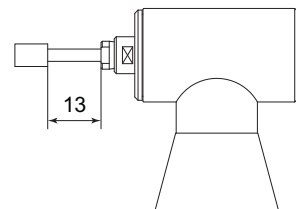

Fig. 12
- ① The proper surface speed for general grindstones is 10 - 30m / s.
- ② Do not exceed 13mm of overhang for mounted grindstones as shown in Fig. 12. If the overhang must exceed 13mm, reduce the motor speed in accordance with Table 2.
- ③ Dress the grindstone prior to use.
- ④ Do not use cutting tools with bent or broken shanks, cracks or excessive run-out.
- ⑤ For grinding, the maximum depth of cut should not exceed 0.01mm radially or axially. Reciprocate the tool several times after each pass to eliminate tool pressure.
- ⑥ Always operate cutting tools within the allowable recommended speed of the cutting tools. Use of a cutting tool outside of the allowable speed of the cutting tools could cause damage to the spindle and injury to the operator.
- ⑦ Keep the cutting tool shank and collet chuck clean. If contaminants are left in the collet chuck or chuck nut, excessive run-out will cause damage to the cutting tool and or Spindle.
- ⑧ Do not strike or disassemble the Spindle.
- ⑨ Please minimize the tool overhang amount to maintaining high accuracy. 13mm is the maximum amount of overhang to maintain high accuracy and safety.